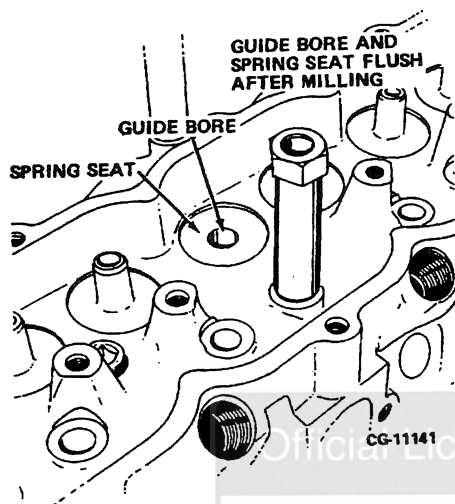

Figure 3.37. Guide Bore Flush with Spring Seat
10. Mill until guide bore is flush with spring seat. Refer to **Figure 3.37**.